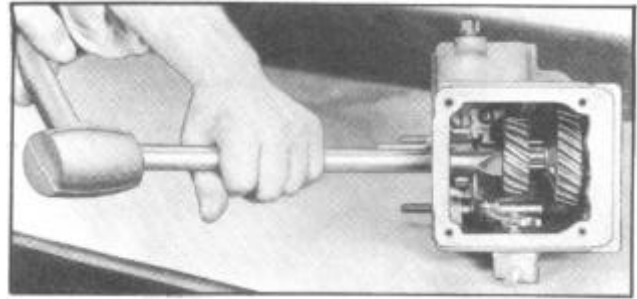

Figure 8--Removing Countershaft Gears Using Drift J-786
35. Take out cap screws holding countershaft rear bearing (23), and cap (24) to transmission case. This will allow removal of cap (24); thrust washer (26) and spacer (28).
36. Insert the beveled edge of the transmission gear drift J-786 between the countershaft drive gear (29) and the countershaft intermediate gear (30) thus separating the gears. After the countershaft (21) has been forced back out of the splines in the drive gear (29) by this method the countershaft should be turned slightly so that the splines of the shaft butt against the splines of the drive gear. Remove countershaft intermediate gear retainer (65).
37. Insert gear drift J-786 through the main- shaft rear bearing hole in transmission case and drive countershaft intermediate gear forward placing the brass end of the drift against the gear hub but do not drive the gear entirely off the shaft as shown in Figure 8.